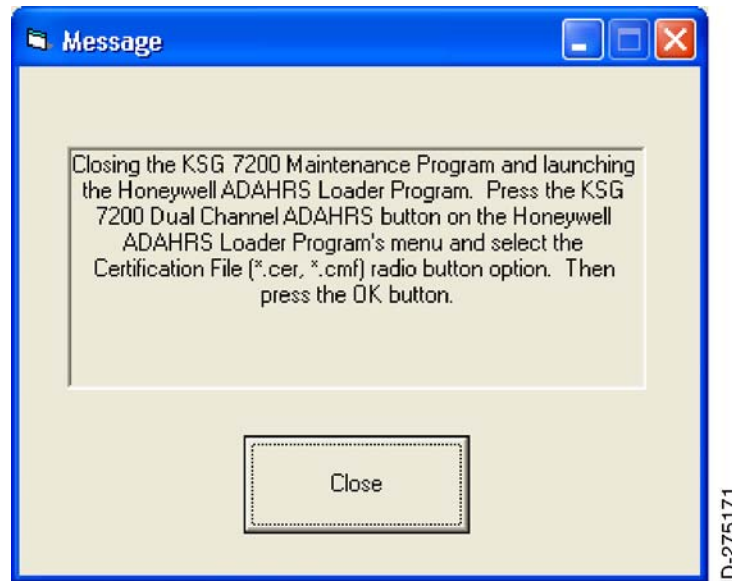

Figure 26. (Sheet 1 of 1) Message Window (Load)
- (6) Click on the Load KSG 7200 Certification File button.
- (7) The message window shown in Figure 26 will appear.